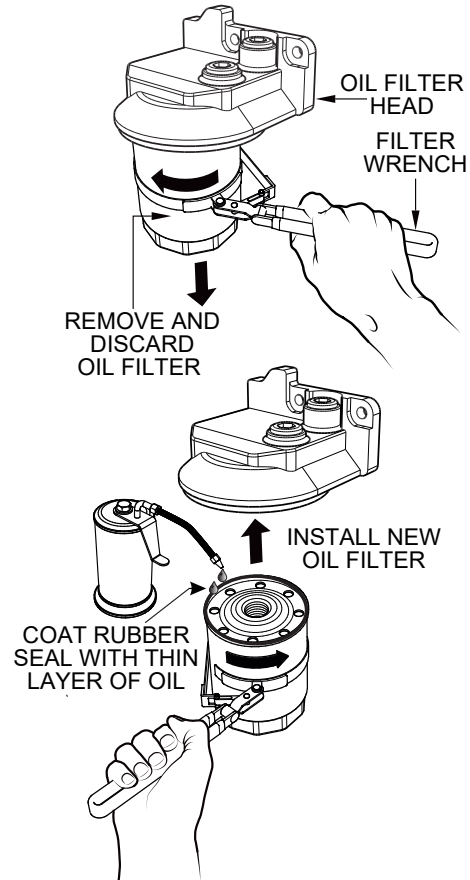

Figure 68. Oil Filter Removal
1. Clean the area around the **oil filter head** (Figure 68).
2. Using an **oil filter wrench**, remove the **engine oil filter** (Figure 68).
3. Coat the rubber seal (gasket) surface of the oil filter with clean 15W-40 engine oil (Figure 68).